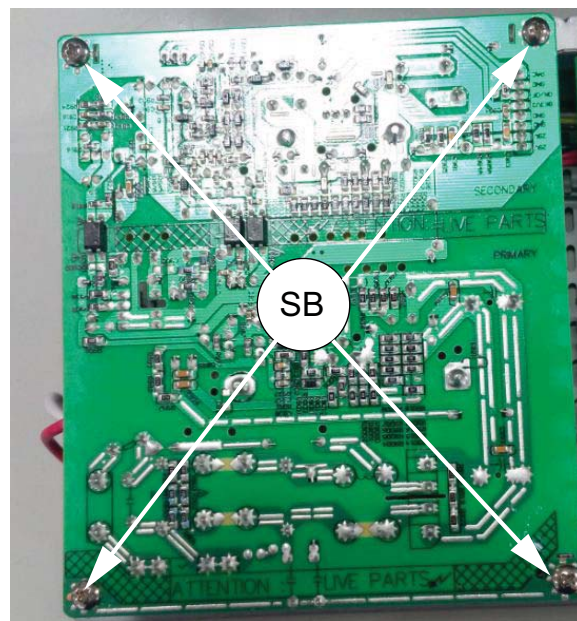

Figure W2
1) Loosen 4 screws "SB" on the top of Power Board as shown in figure W2 to remove Power board.